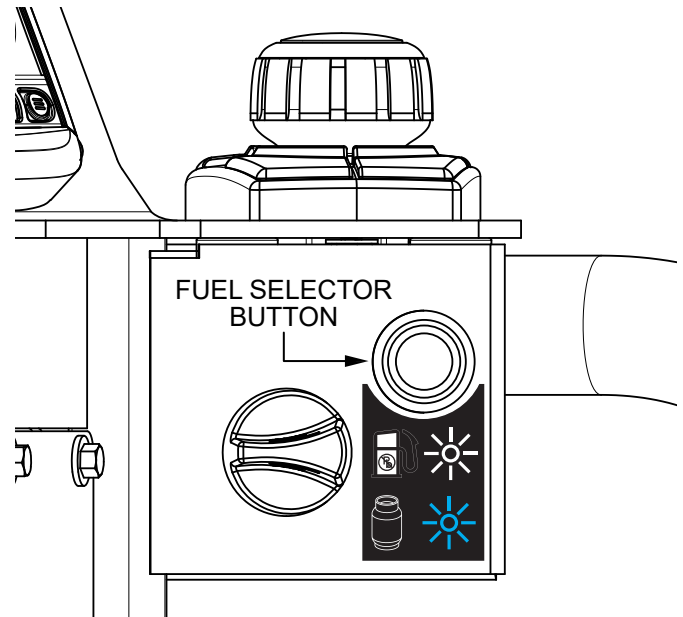

Figure 35. Fuel Selector Button
4. Select **GAS** or **LPG** fuel mode. Press the **fuel selector button** (Figure 35) to toggle between gasoline and LPG fuel systems. The button will illuminate when LPG is selected. The selected fuel system is also shown on the digital display.